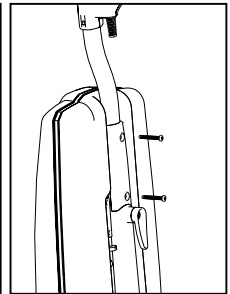

Fig. 4
- Place the handle bracket back into position (Fig. 4).